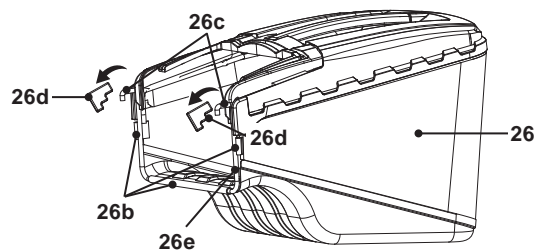

Fig. 5
2. Remove the two protective caps (26d) from the hooks (26c) (Fig. 5)
3. The grass catcher (26) is now ready for use.